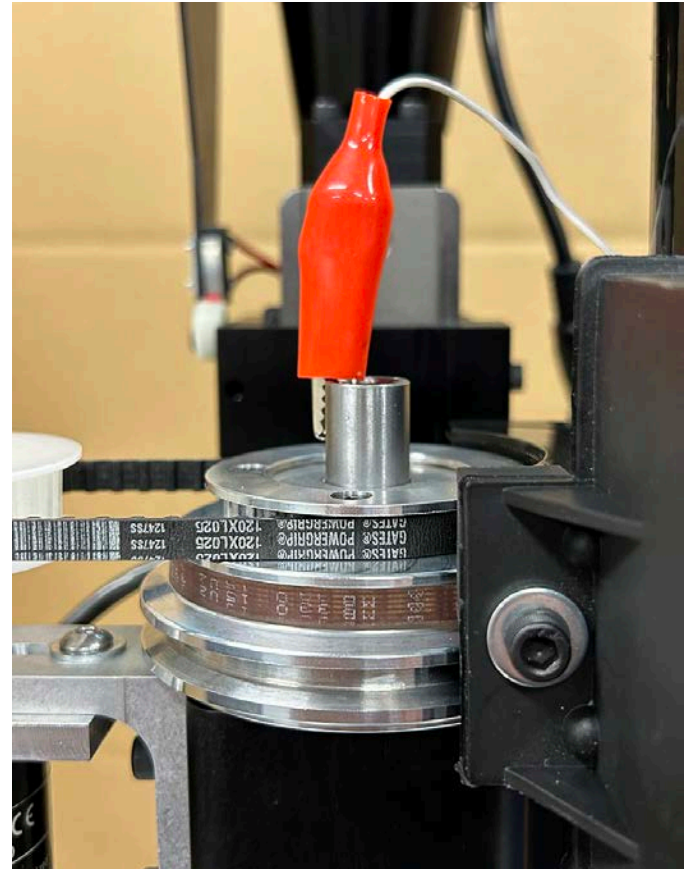

FIGURE 25
3. Clip the alligator clip onto the end of the spindle (or the tool or tool holder as an alternative) (see Figure 25).